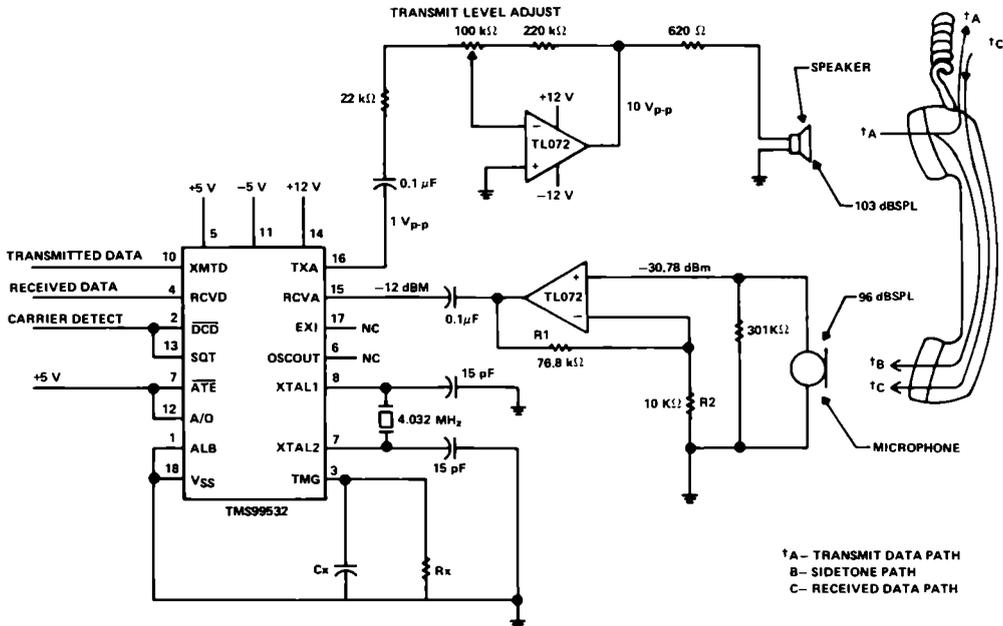

FIGURE 12 - EXAMPLE OF ACOUSTIC COUPLER INTERFACE
This section presents a design (Figure 12) for an acoustic coupler interface utilizing the TMS99532 modem. Specific applications may require changes in circuit component values, depending upon the sensitivity of the selected microphone, speaker efficiency and the properties of the acoustic interface between the telephone handset and the microphone and speaker.
In the originate mode, the receiver operates in the high band (1975 to 2275) with received signals in the  $-12$  dBm to  $-38$  dBm range. Note that the in-band signal should be as high as possible without exceeding  $-12$  dBm. In-band signals greater than  $-12$  dBm may cause the bandpass filters to saturate and thus perform unacceptably. As shown in Figure 12, a part of a TL 072 is used as a buffer amplifier to provide the TMS99532 with the proper input signal. A coupling capacitor is necessary since the RCVA pin is referenced at a DC level. The amplifier gain is determined as follows:
3. For the noninverting amplifier configuration utilized in Figure 12, the gain is equal to  $1 + (R1/R2)$ . Therefore:
As stated previously, the maximum transmit level permitted by this design is  $-9$  dBm. Only a simple buffer amplifier is required to provide variable gain for transmit level calibration and speaker drive capability since the TXA pin of the TMS99532 modem will drive loads of 20K ohms or more. Using an 8-ohm speaker with the 620-ohm series resistor, shown in Figure 12, a 10-volt peak-to-peak drive signal at the output of the TL 072 produced an output sound pressure of 103 dB SPL which in turn produced a  $-9$  dBm signal on the telephone line. To accommodate variations in speaker efficiency, another 3 dBm of gain is required for a total of approximately 14.1 volts peak-to-peak or an output buffer gain of 14.1 volts. The signal level on the TXA pin of the TMS99532 is 1 volt peak-to-peak. The input resistor was chosen to be 22K ohms.
The potentiometer configuration, shown in Figure 12, was selected to prevent too low a transmit level and to eliminate coarseness in the transmit level adjustment if a 3/4-turn potentiometer is implemented. Using a 100K ohm potentiometer requires the fixed feedback resistor to be 210K ohms. However, a 220K ohm resistor was chosen since it is the nearest 5% value.